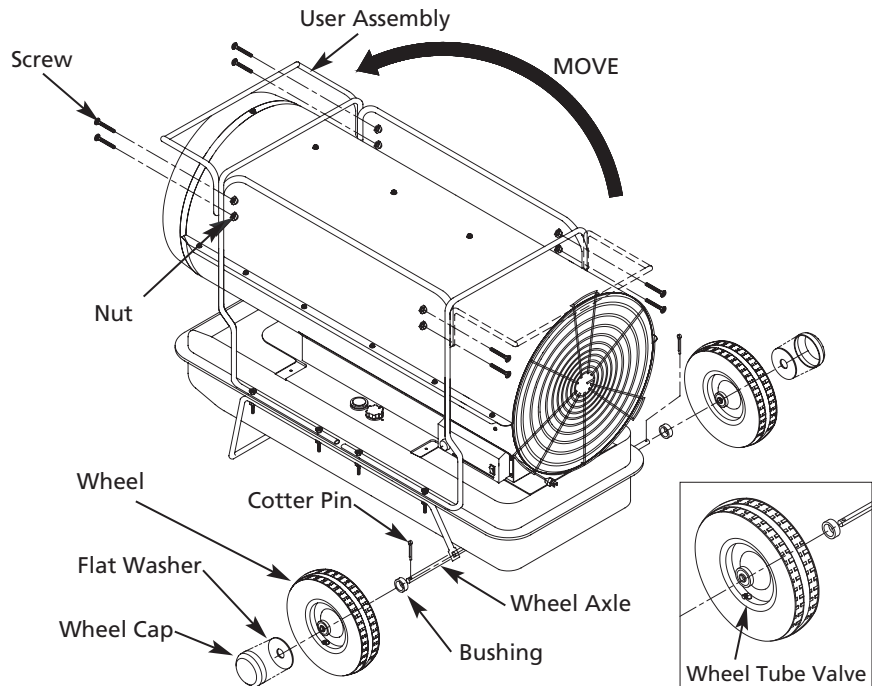

Figure 5 – Wheel and Handle Assembly
NOTE: When installing wheels, tube valve should face out from support frame (Figure 5).
5. Move the removed handle front to the handle on the front side as Figure 5, and then tighten 4 screws after matching handle and handle front.